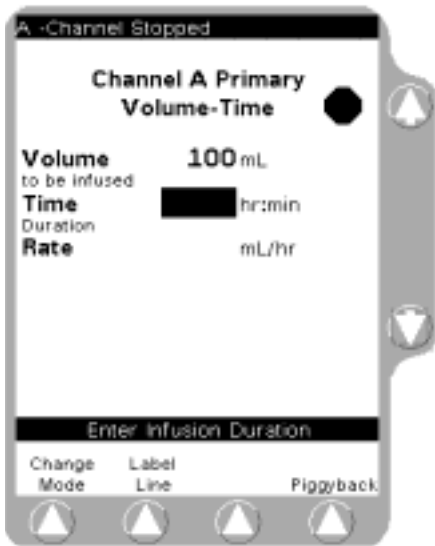

Figure 5-27 Enter Time Duration
5. Highlight Time Duration using the $\uparrow\downarrow$ keys. Use the keypad to enter the time period for the infusion in hours and minutes. The pump automatically calculates the flow rate (Figure 5-27).